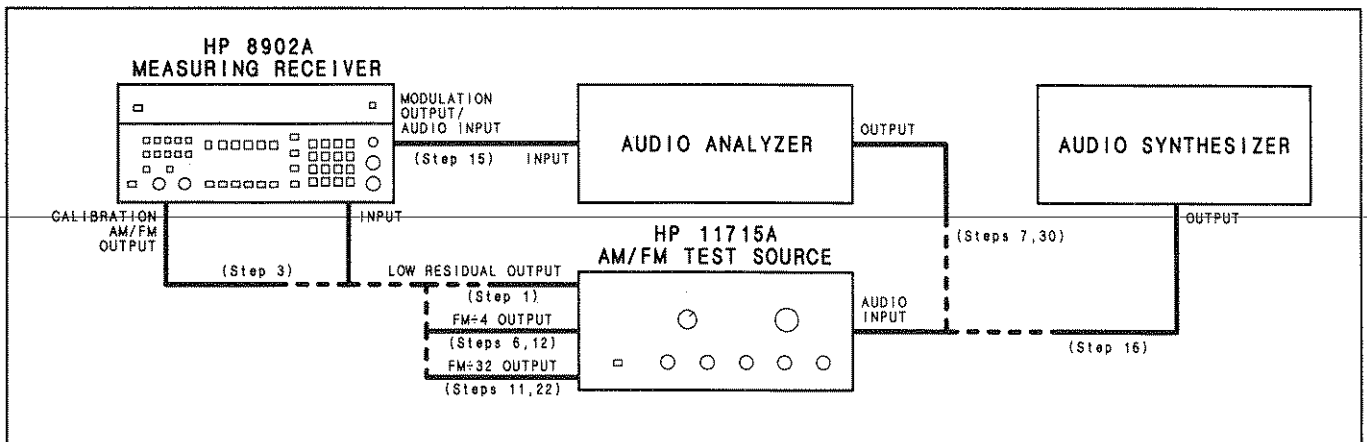

Figure 4-2. FM Performance Test Setup
1. On the AM/FM test source, set the test mode to residual FM. Connect its low-residual (560 MHz) output to the Measuring Receiver's INPUT. (See Figure 4-2.)
3. Connect the Measuring Receiver's CALIBRATE AM/FM OUTPUT to the INPUT. (See Figure 4-2.)
6. On the AM/FM test source, set the test mode to FM. Connect its FM÷4 output to the Measuring Receiver's INPUT. (See Figure 4-2.)
7. Set the audio analyzer's oscillator to 10 kHz at 1V. Connect its output to the audio input of the AM/FM test source. (See Figure 4-2.)
11. Connect the FM÷32 output of the AM/FM test source to the Measuring Receiver's INPUT without disturbing the AM/FM test source's controls. (See Figure 4-2.) Multiply the displayed ratio on the Measuring Receiver by the calibration factor of step 4. (For example, if the display reads 12.52% REL and the calibration factor of step 4 is 100.4%, the result is $12.52 \times 100.4 = 12.57\%$ REL.) The result should be between 12.35 and 12.65% REL.
12. Connect the FM÷4 output of the AM/FM test source to the Measuring Receiver's INPUT. (See Figure 4-2.)
15. Connect the audio analyzer's input to the Measuring Receiver's **MODULATION OUTPUT/AUDIO INPUT**. (See Figure 4-2.) Set the audio analyzer to measure the distortion on the 100 kHz signal at the **MODULATION OUTPUT/AUDIO INPUT** (all audio analyzer filters should be off). The distortion should be 0.1% or less (-60 dB or less).
- Set the audio synthesizer to 10 kHz at +5 dBm. Connect its output to the audio input of the AM/FM test source. (See Figure 4-2.) Fine adjust the level for a Measuring Receiver display of 100 kHz times the calibration factor of step 5. (For example, if the calibration factor of step 5 is 100.4%, set the level for a display of 100.4 kHz.)
- Connect the FM÷32 output of the AM/FM test source to the Measuring Receiver's INPUT. (See Figure 4-2.)
30. Set the audio analyzer's oscillator to 10 kHz at 4V. Connect its output to the audio input of the AM/FM test source. (See Figure 4-2.) Fine adjust the oscillator level for a Measuring Receiver display of 10 kHz peak deviation.